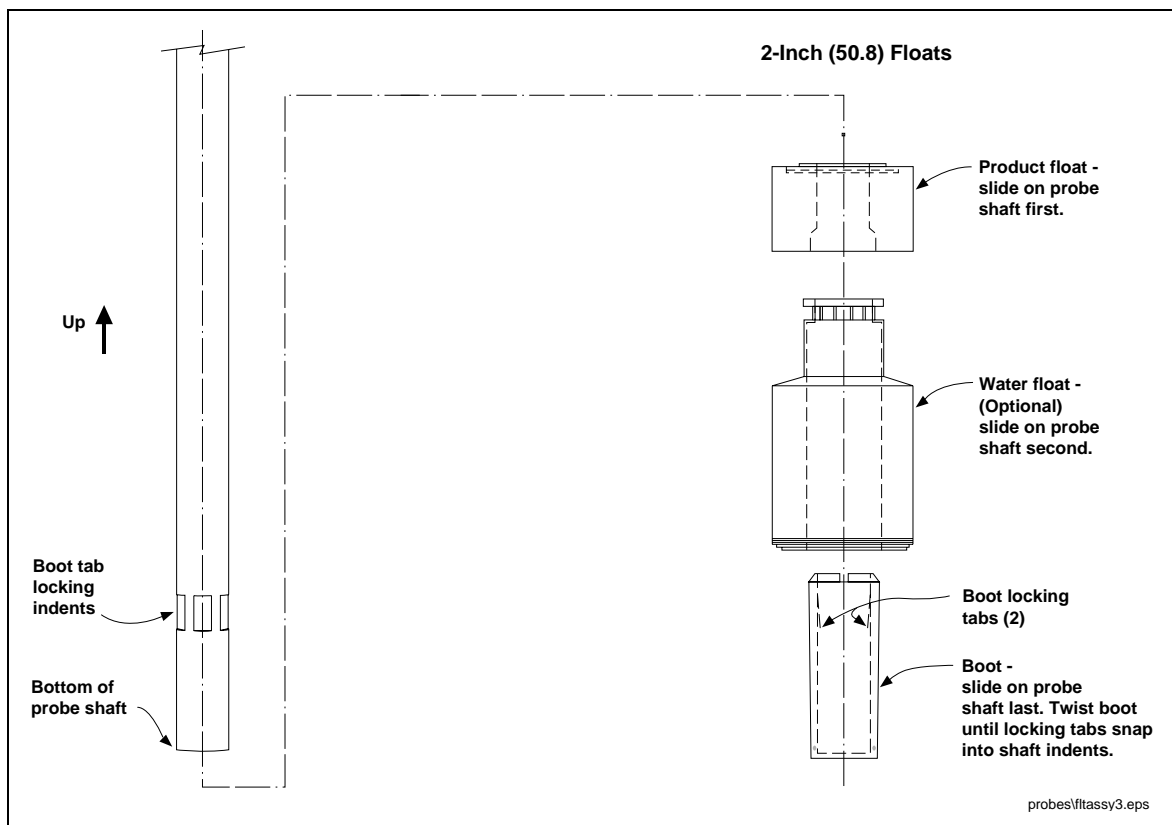

Figure 6. Installing Floats onto Probe Shaft
3. Assemble the floats and boot on the probe shaft in the exact sequence and orientation shown in Figure 6 on page 12.